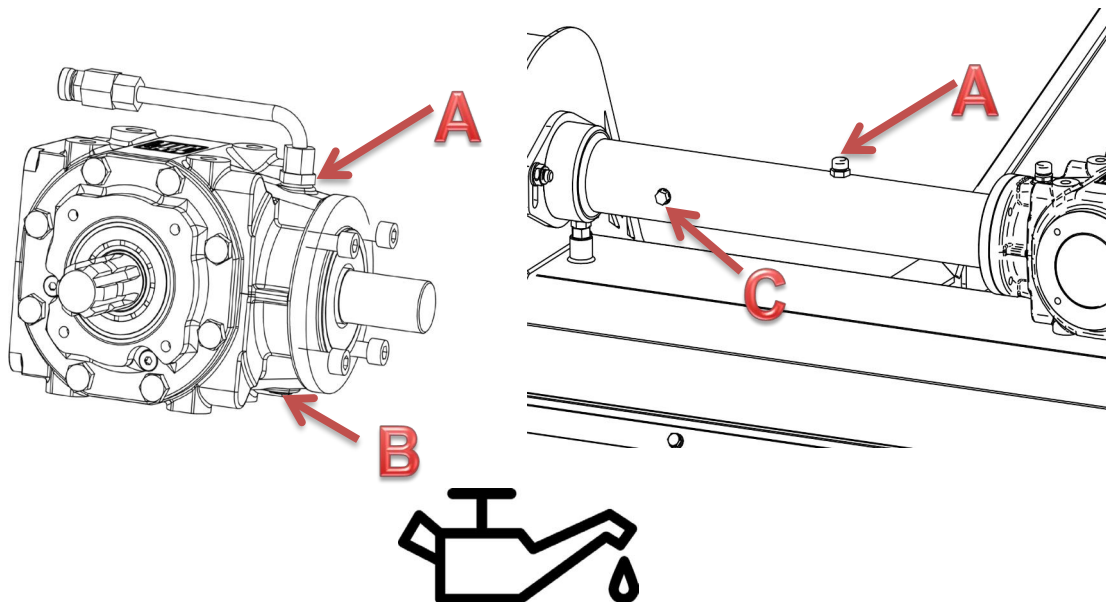
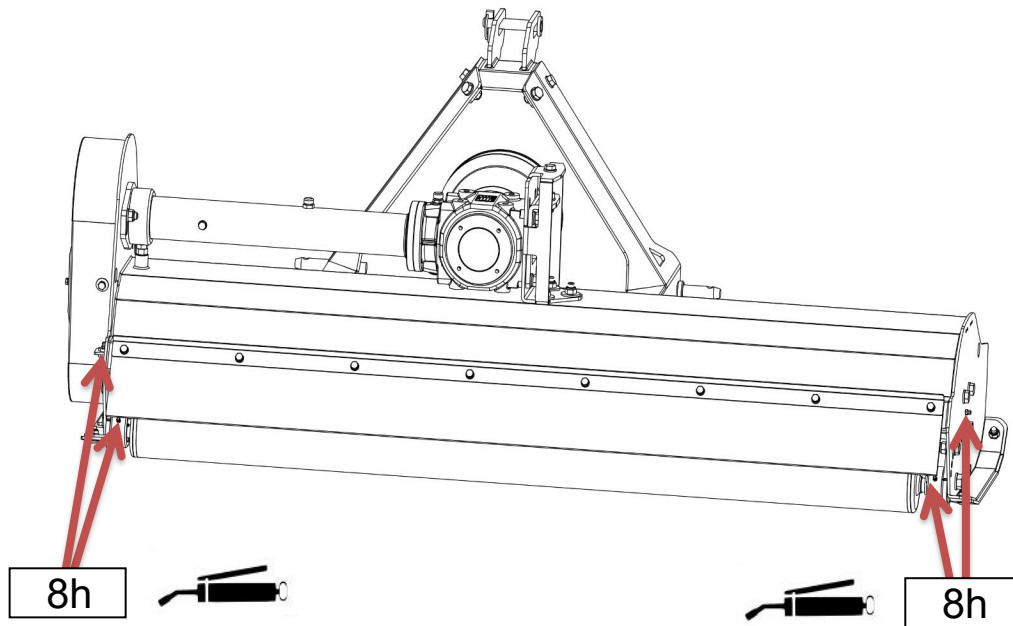

Figure 7. Oil change points
Figure 8. Lubrication diagram
The oil change points are marked in Figure 7, where the letters assay the oil filling inlet (A), drain plug (B) and sight glass (C).
All points indicated in Figure 8, equipped with ball type grease fittings, should be filled with solid grease tT43 using of a lubricating gun. Lubricate the jointed-telescopic shaft after removing it from the machine. Lubricate the telescopic part of the shaft at least after 8 hours of operation – when the shaft is entirely moved apart and impurities have already been cleaned. Details of PTO shaft operation are contained in a separate manual supplied with it. The figure 7 presents the location and recommended operating time after which the indicated components should be lubricated.
- lubricate the machine according to the lubrication diagram (Fig. 8),